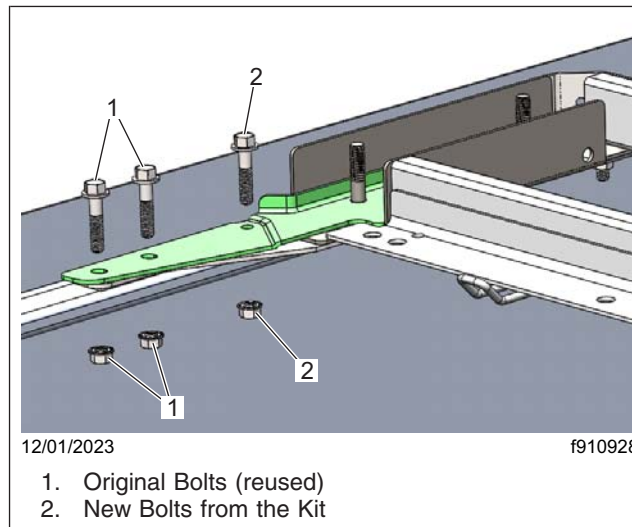

Fig. 6, Installing the 3/8-Inch Wall Bracket Bolts and Nuts
9. Install the three 3/8-inch wall bracket bolts and nuts. Tighten the fasteners 14 lbf-ft (19 N·m). See Fig. 6.